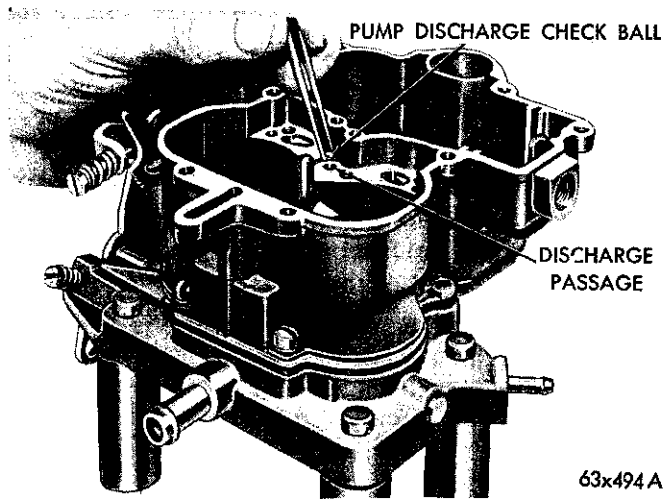

Fig. 13—Installing the Discharge Check Ball
(5) Install the accelerator pump discharge check ball ( $\frac{1}{8}$  inch) in the discharge passage, as shown in Figure 13.